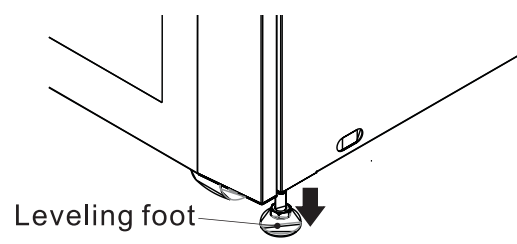

Figure 4.5
5. Once the UPS is in final position, rotate the levelling feet clockwise below the level of the casters to secure in place (Figure 4.5). Do not rest the UPS permanently on the casters.